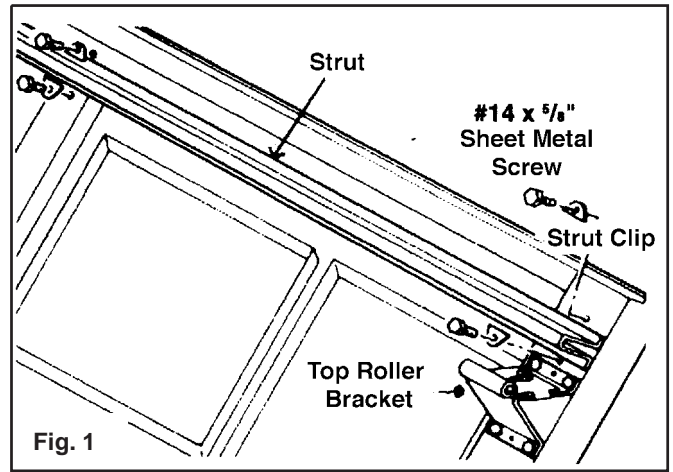

Fig. 1
**Step 1:** Place the last section on the saw horses. Attach the top roller brackets as shown. The top roller brackets are to be attached with three (insulated doors) or four (non-insulated doors) #14 x 5/8" sheet metal screws. The top of the bracket should be located 3 1/4" down from the top of the door. The bottom of the bracket goes in smaller holes 6 1/4" from top of section. (FIG. 1)
If your door was supplied with any struts one will be attached to the top section as shown. (FIG. 1) (Consult chart below.) DO NOT use the pre-drilled holes in the strut. Attach strut with strut clips provided.